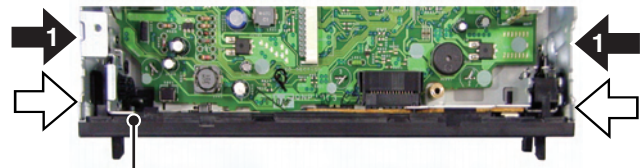

Fig.7
● Removing the Panel Assy (Fig.7,8)
- ➡ 1 Remove the two screws. (Fig.7)
and then remove Panel Assy. (Fig.7,8)